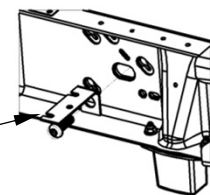

Figure 4c
7. Fasten the frame brackets to the vehicle frame rails as shown in Figure 3. Pass the cap head bolt (6) through the conical washer (4) and then the rearward slot interior of the truck frame. Place the mounting bracket (1), conical washer (4), and the nut (3) on and hand tighten. On Pickups with OE Brake Controller, refer to installation step 2 to relocate the plug with the angle bracket. Use the cap head bolt (6) to attach the angle bracket to the inside of the frame (see Figure 4c), the angle bracket will go between the flat washer and the frame.
8. The forward slot of the truck frame will require using the supplied wire pull (9) to install the carriage bolt to the interior of the truck frame. Pass the wound end of the wire through the exterior of the frame, pulling it enough to thread the rectangular carriage block (8) and the 5/8" carriage bolt (7) on to the wire pull. Pulling the wire pull back through the frame will allow the installation of the mounting bracket, conical washer (4) and the nut (3). Hand tighten the nut in place.